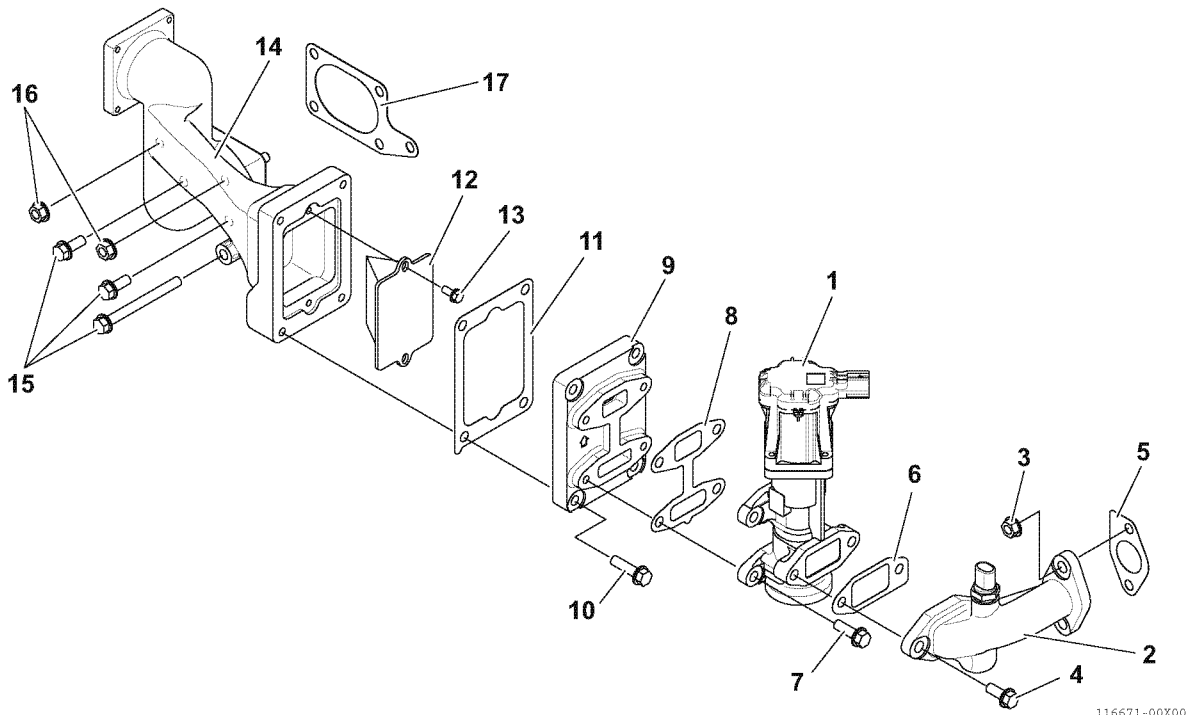

Fig.23-6
1. Disconnect the harness connectors of the EGR valve (1, Fig.23-6) and EGR pipe (2, Fig.23-6) beforehand.
2. Loosen the cylinder head side mounting nut (3, Fig.23-6), and EGR valve-side mounting bolt on the EGR pipe, then remove the EGR pipe. and mounting bolt on the EGR valve side (4, Fig.23-6) on the EGR pipe, then remove the EGR pipe. Discard the EGR pipe gasket on the cylinder head side (5, Fig.23-6), and the EGR valve (IN) gasket on the EGR side (6, Fig.23-6).
3. Loosen the EGR mounting bolts (7, Fig.23-6) and remove the EGR valve. Discard the EGR valve (OUT) gasket (8, Fig.23-6).
4. Loosen the mounting bolt (10, Fig.23-6) of the EGR valve spacer (9, Fig.23-6) and remove the spacer. Discard the EGR valve spacer gasket (11, Fig.23-6).
5. Loosen the mounting bolt (13, Fig.23-6) of the EGR lead valve (12, Fig.23-6) and remove the lead valve.
6. Loosen the mounting bolt (15, Fig.23-6) and nut (16, Fig.23-6) of the intake collector (14, Fig.23-6), and remove the collector. Discard the intake pipe gasket (17, Fig.23-6). (If there is a harness clip bracket installed on the intake collector, remove it in advance.)